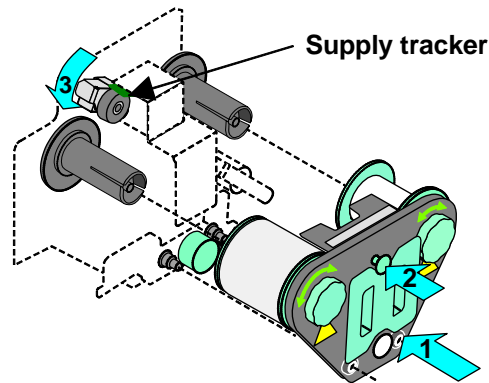

Figure 2-12: Replace the supply cartridge
- 3 Push the supply cartridge into the printer (step 1 in Figure 2-12). Make sure the supply material passes between the heated roller and the platen roller. Turn the supply knobs if needed to take up slack so the material does not wrinkle as the cartridge is pushed in place.
- 5 Press the cartridge lock to secure the supply cartridge in the printer (step 2 in Figure 2-12).
- 6 Lower the supply tracker until it rests on the supply material (step 3 in Figure 2-12).
- 7 Verify that the cartridge is replaced correctly by making sure the locating posts come through the locating holes in the cartridge (Figure 2-12).